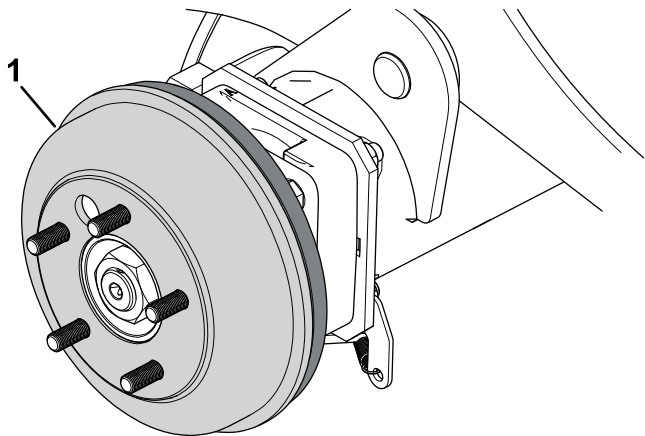

Figure 70
4. Remove the brake drums (Figure 70) by hand.